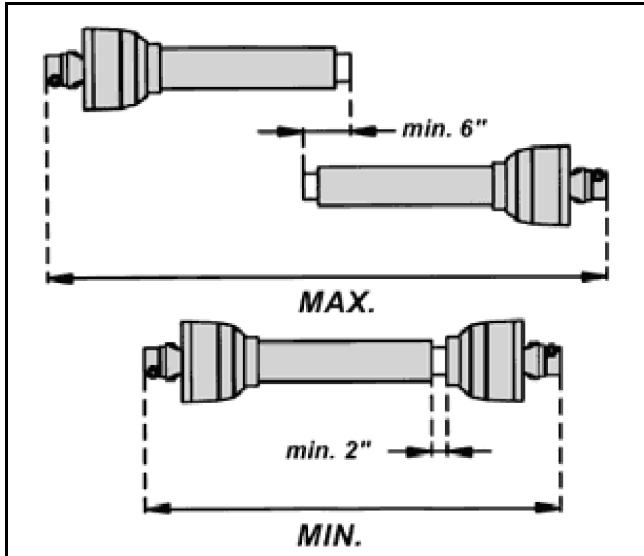

Figure 9. Example of Overlap
- On a flat, level surface, slowly raise and lower the post hole digger while closely watching the driveline to see if it separates, binds, or bottoms out. With the 3-point arms fully raised, measure driveline overlap and verify there is a minimum of 6" overlap of driveline telescoping members. See Figure 9.
- Lower 3-point arms until gearbox output shaft or gearbox output guard contacts the ground. With the gearbox on the ground, measure the overlap of the driveline. Verify there is a minimum of 2" of travel left before the driveline will bottom out. See Figure 9.
4. Hold the two halves parallel to one another to determine how much the driveline must be shortened. Mark each end. See Figure 9.